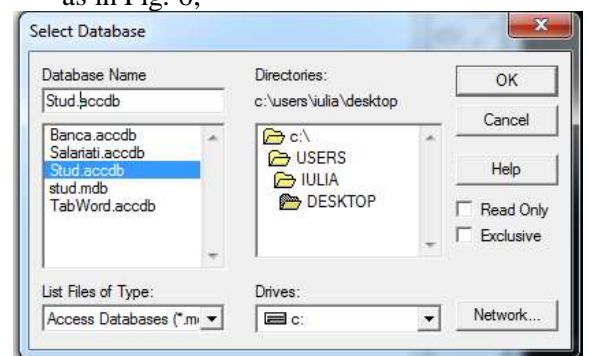

Fig. 6. Dialog box *Select Database*
- h) to connect to the database *Stud* from the menu *Data Sources*, *Stud Cmn* is selected, one presses the right mouse button and one chooses *Connect*; therefore a window will appear where we can choose the used external database (*Stud.accdb* in our case), as in Fig. 6;